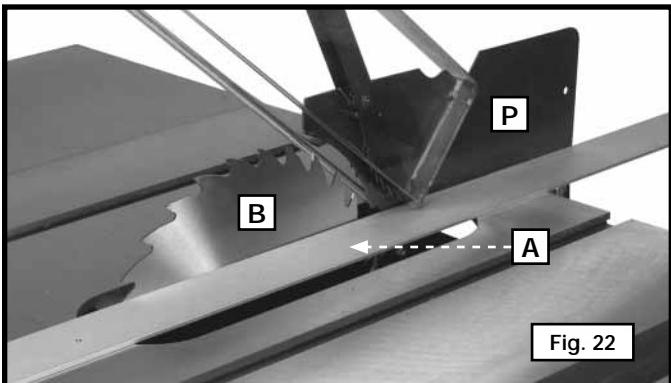
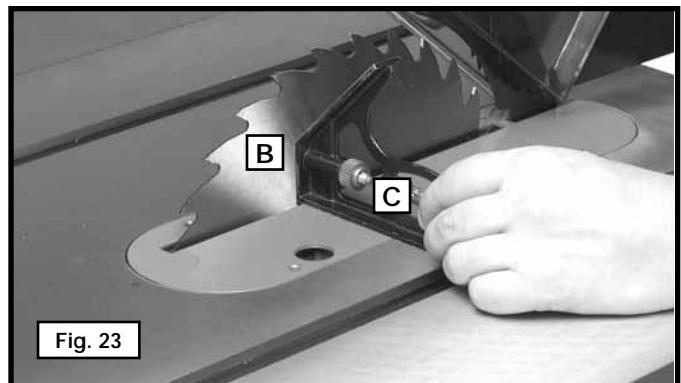
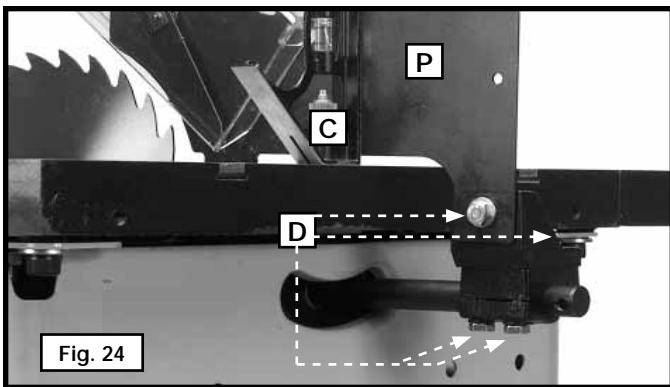

Fig. 22
Fig. 23
Fig. 24
13. Use a straight edge (A) Fig. 22 to align the splitter (P) with the saw blade (B). Use a square (C) Figs. 23 and 24 to check the 90 degree angle of the saw blade and splitter to the table surface. When all alignments are correct, tighten the hardware (D) Fig. 24.